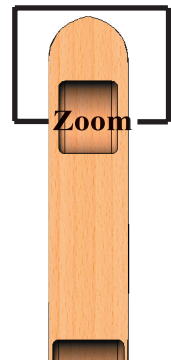

Fig. 41
Step 2. Use the **Zoom to Area**  in the View toolbar to drag a zoom window around the **front wheel cutout**, **Fig. 41**.